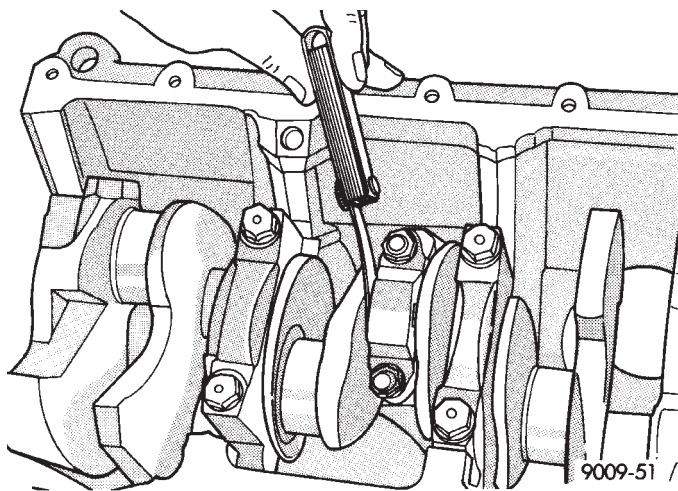

Fig. 17 Checking Connecting Rod Side Clearance
(2) Before installing the nuts the threads should be oiled with engine oil.
(3) Install nuts on each bolt finger tight then alternately torque each nut to assemble the cap properly.
(4) Tighten the nuts to 54 N•m PLUS 1/4 turn (40 ft. lbs. PLUS 1/4 turn).
(5) Using a feeler gauge, check connecting rod side clearance (Fig. 17). Refer to (Fig. 18) for specifications.